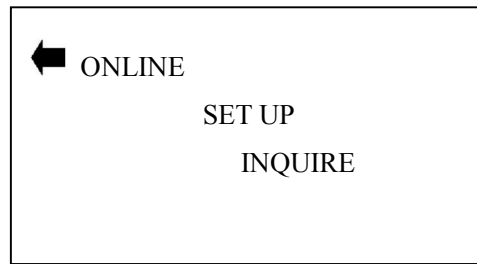

Fig. 9.3
5. The UPS will access the main menu after it finishes the self-test (Fig. 9.3) .
5. Press the ESC key located on the LCD display and operation panel to access the main menu (Fig. 9.3).